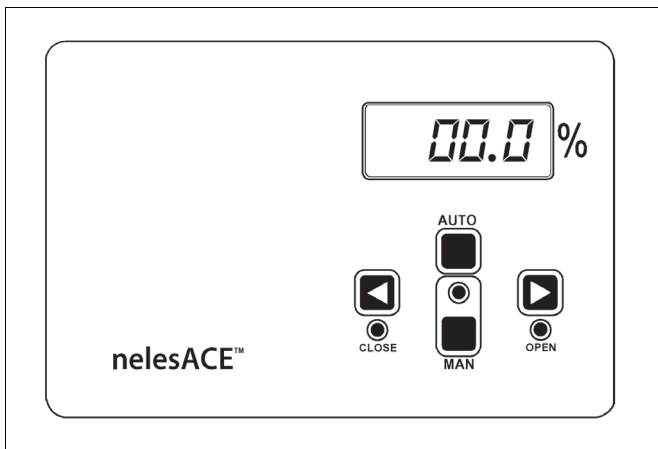

Fig. 15 Control panel
In automatic mode the control panel is disabled and step motor is controlled by the control system. In local control mode the step motor can be driven to both directions by using the control panel push buttons, Fig. 15. Automatic/local mode selection is done by AUTO/MAN push buttons. When selecting local control mode the MAN push button must be pressed for more than one (1) second. The lit LED indicates that local control mode (MAN) has been selected. Control unit receives position information from the actuator's potentiometer. This position information is shown as percentage in the panel's LCD display. Control panel has LEDs to indicate limit switch status (open or close).